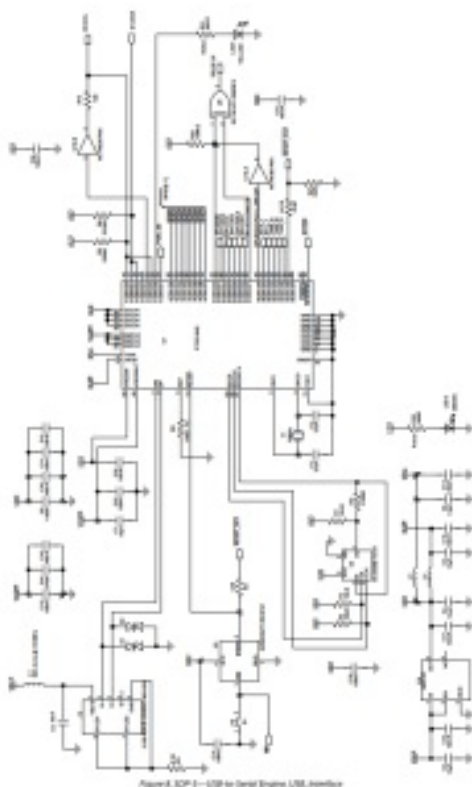

Figure 8. SGP-2—USB for Denali Engine USB Interface
- SDP-S—USB-to-serial engine, USB, interface (see Figure 8)